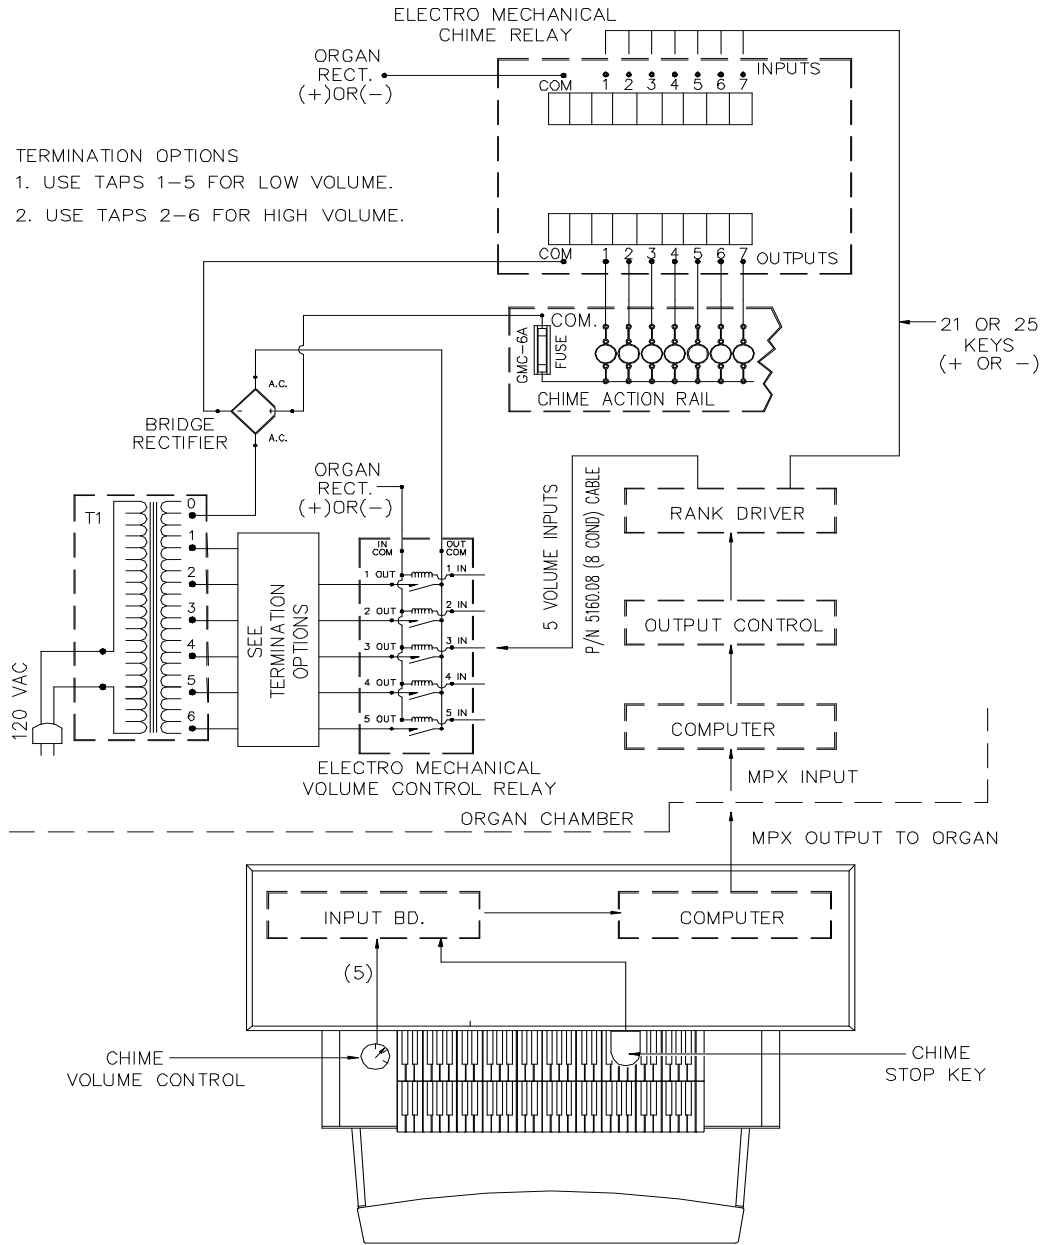

FIGURE 3
**SEE FIGURE 3 FOR TYPICAL WIRING DIAGRAM**